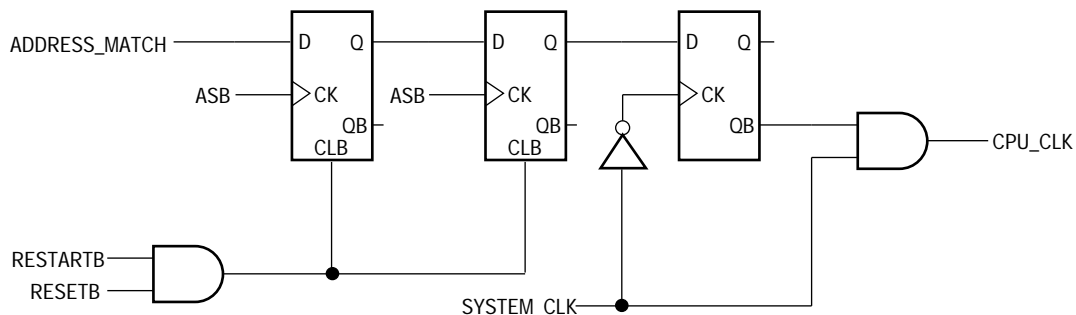
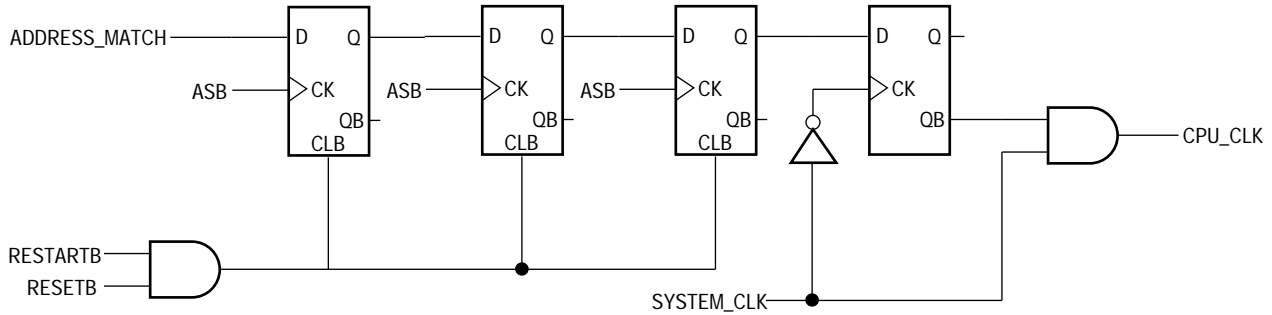

Figure 1. Low-Power Circuitry for 16-bit data bus
Figure 2. Low-Power Circuitry for 8-bit data bus
- 1.) Externally detect a write to the low-power address. This address should be chosen by the user and can be any address in the 4 Gbyte addressing range of the SCM68000. A write to the low-power address can be detected by polling A31–A0, RWB, and FC2–FC0. When the low-power address is detected, RWB is a logic low, and the function codes have a five (101) on their output, then the processor is writing to the low-power address in supervisor mode and user-designed circuitry should assert the ADDRESS\_MATCH signal shown in Figure 1 and Figure 2.
- 2.) Execute the STOP instruction. The external circuitry shown in Figure 1 and Figure 2 will count the number of bus cycles starting with the write to the low-power address and will stop the processor's clock on the first falling edge of the system clock after the bus cycle that reads the immediate data of the STOP instruction. Figure 2 has one more flip-flop than Figure 1 because the SCM68000 in 8-bit mode requires two bus cycles to fetch the immediate data of the STOP instruction. After the processor's clock is disabled it is often desirable to disable the clock to other sections of the user's circuit. This can be done, but care must be taken to ensure that runt clocks and spurious glitches are not presented to the SCM68000. A timing diagram is shown in Figure 3.